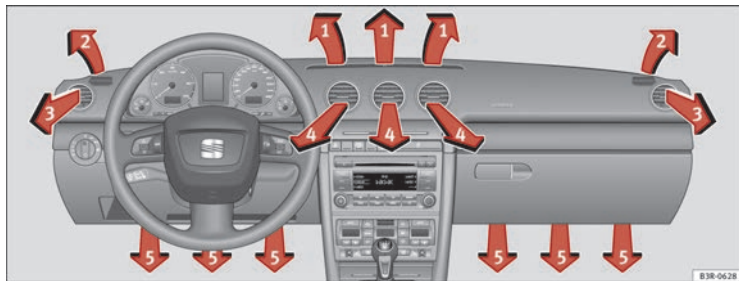

Fig. 142 Dash panel: Location of air outlets
The air outlets ⇒ Fig. 142 ③ and ④ can be operated as follows:
Each of the three buttons has a specific function. The numbers relate to the air outlets ⇒ Fig. 142. ▶
After the ignition is switched off, the blower is supplied with electrical power from the sunroof. Please ensure that outlets 3 and 4 are open ⇒ Fig. 142 to ensure the best possible ventilation.